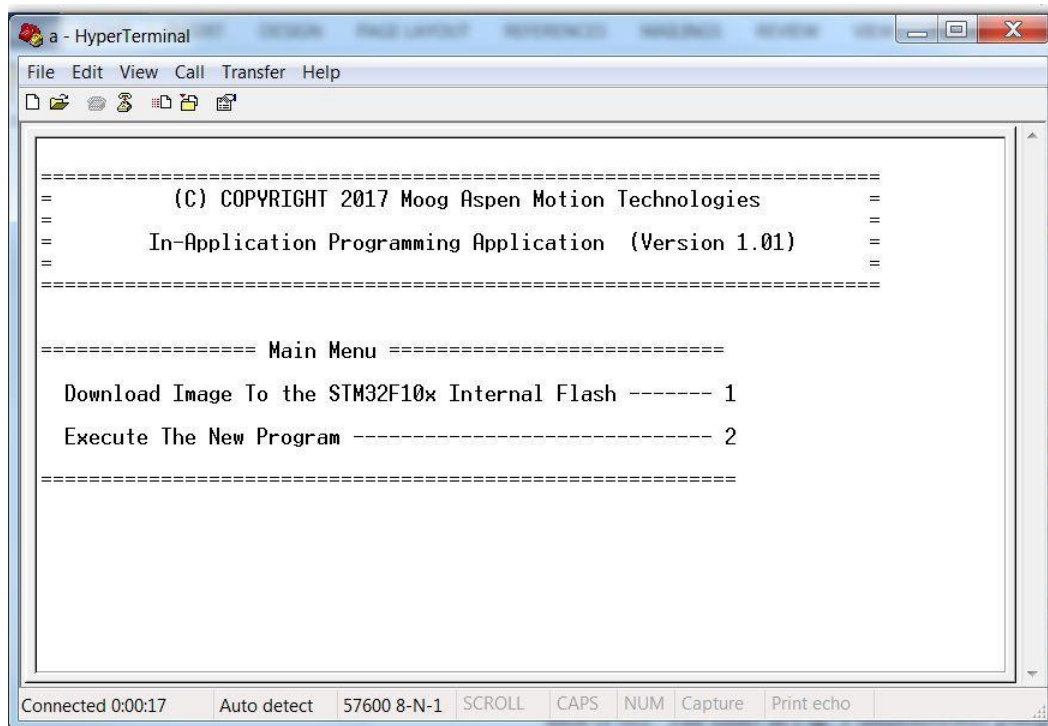

Fig. 1. Main Menu
- (1) Start the HyperTerminal application on the PC. Immediately after starting, you will be asked to input a name for the New Connection. Enter anything you choose and hit ENTER or click the OK button. The “Connect To” window will then open. Click the arrow to the right of the Connect Using button for a dropdown menu of available COM ports, select the COM port that has been assigned to the adapter, and click OK. (Note that the correct COM port setting can be verified by navigating to Device Manager under Window’s Control Panel and looking under Ports (COM & LPT) After selecting the COM port, the Port Settings window will open. Choose the settings shown above. Click Apply and OK. The Port Settings window will close leaving you in the main terminal window with the COM port open.
- (2) Power on the drive.
- (3) If everything is connected and working as it should be, the Main Menu text as displayed in Fig. 1 should appear in the HyperTerminal window.